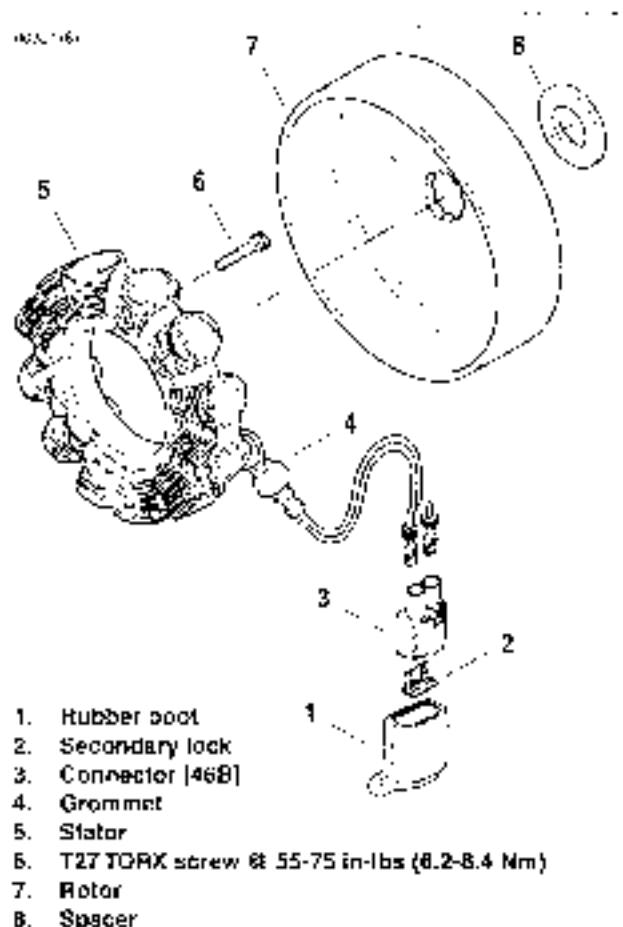

Figure 8-26. Rotor and Stator Mounting
2. See Figure 8-26. Pull off the alternator rotor (7) using two bolts inserted through the holes in the rotor lugs. Remove the spacer (8).
3. Remove the T27 TORX screws (6). Unplug the voltage regulator and remove the stator (5).
5. Remove secondary locks (2) and wires (pull) from connector [46B] (3).
2. See Figure 8-26. Push rubber grommet (4) through crankcase hole. If necessary, apply the same lubricant used during removal.
3. Insert wires into connector [46B] (3).
4. Install secondary lock (2) to connector.
5. Mate connector [46]. Slide rubber boot (1) over connector [46] and install connector/boot assembly to front engine mount screw.